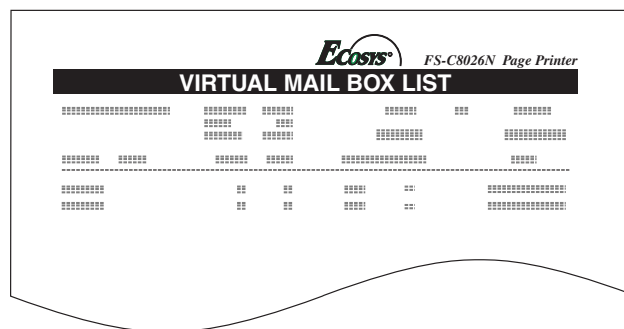

Figure 3-8
- 6** Press the **ENTER** key again. The printer prints a list of jobs currently posted in the virtual mailboxes as shown in *Figure 3-8* below.